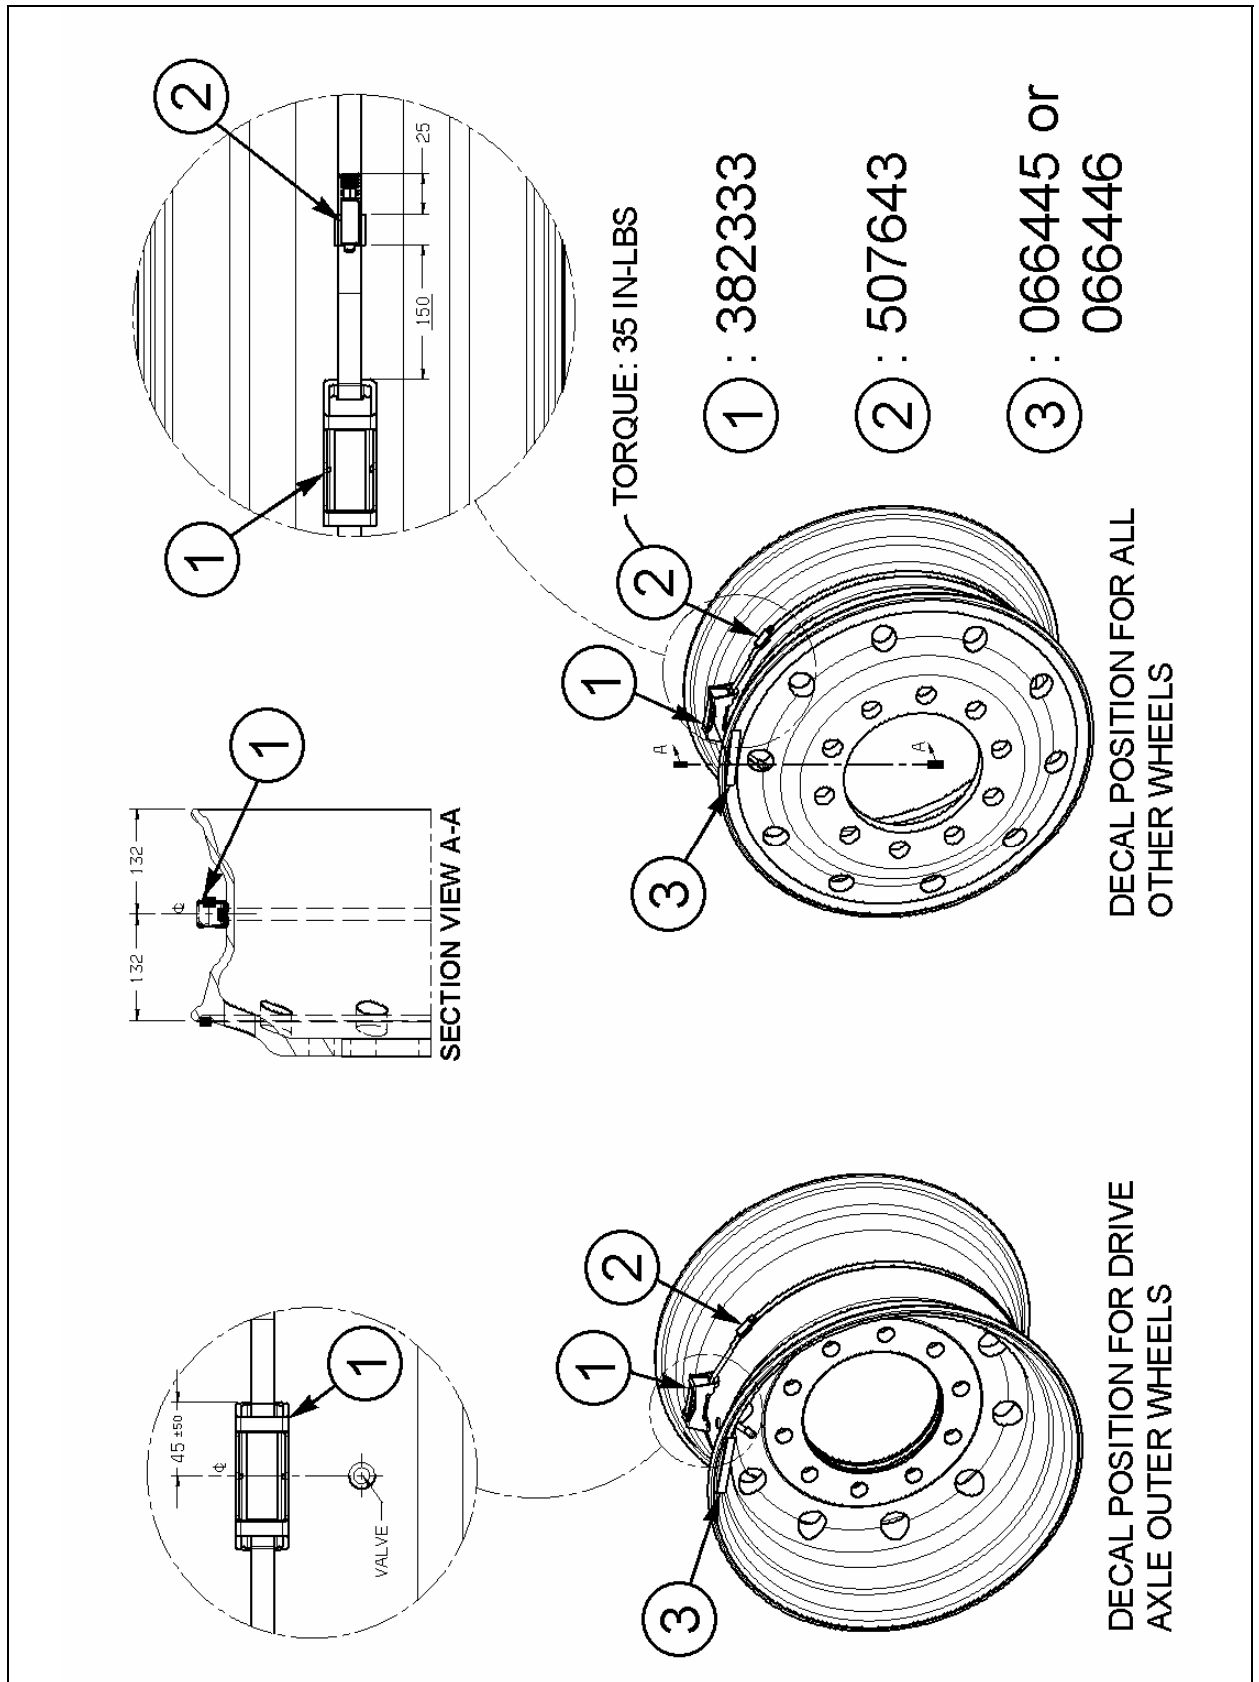

FIGURE 1
5. Position the strap-mounted sensor in center of the rim in the lowest point of the drop center well at ± 2 -inch (50 mm) of the valve. Position the strap (507643) worm-gear 6-inch (150 mm) away from the sensor (Refer to figure 1).
7. Cut the excess of the strap 1-inch (25 mm) from the worm-gear (Refer to figure 1).
8. Using alcohol, clean and dry the location on the outside of the rim flange where the decal will be installed. Apply the supplied decal (066445 or 066446) as per figure 1.